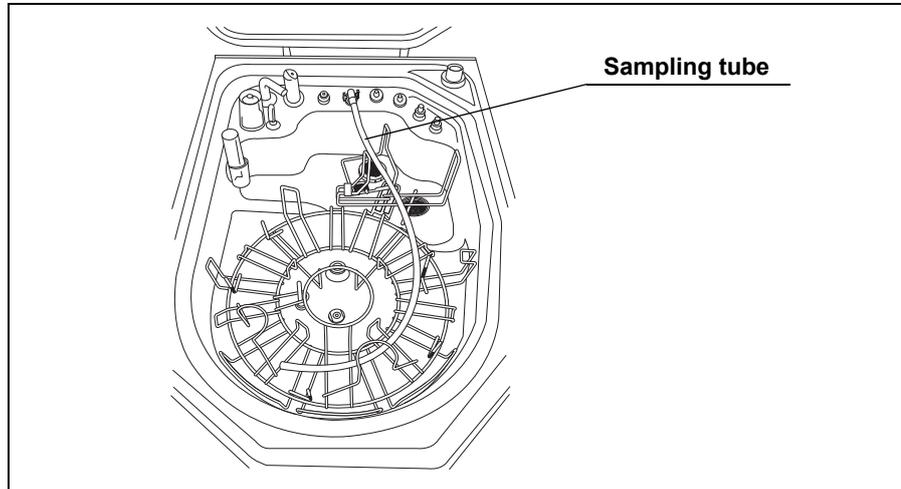

Figure 7.37
1. Connect the sampling tube connector to the same-colored connector at the rear center of the reprocessing basin by pushing down on the tube's connector until it clicks (see Figure 7.37).
16. Place the sampling tube on the retaining rack (see Figure 7.37).